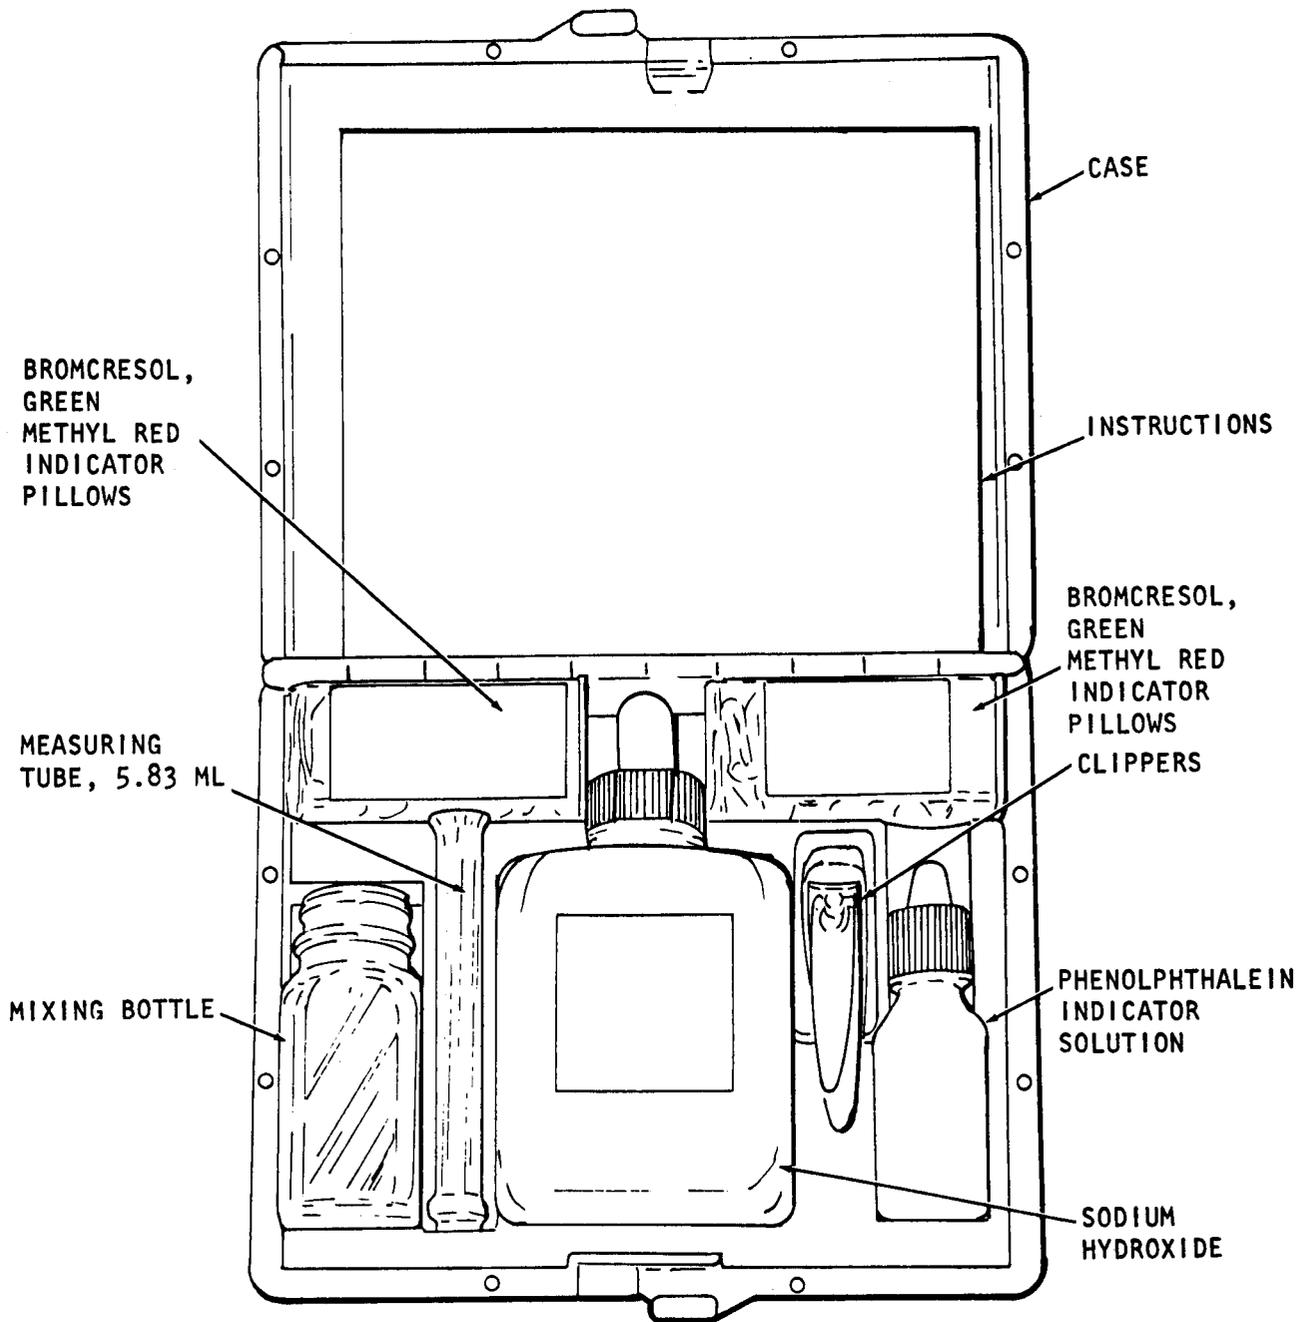

Figure 2-5. Acidity Test Kit
- a. Acidity Test Kit (fig. 2-5).
(1) Acidity is a method of expressing the capacity of water to donate hydrogen ions and gives an indication of the water's corrosiveness. The acidity of natural water is normally very low unless strongly acidic industrial water has been introduced. Water is very weak acid.